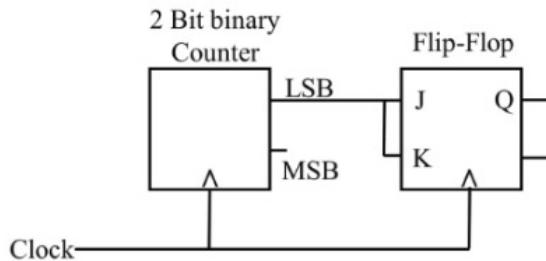

Fig. 5.11: Circuit
11. For the circuit shown in Fig. 5.11, the clock frequency is  $f_0$  and the duty cycle is 25%. For the signal at the Q output of the Flip-Flop, (GATE EC 2022)